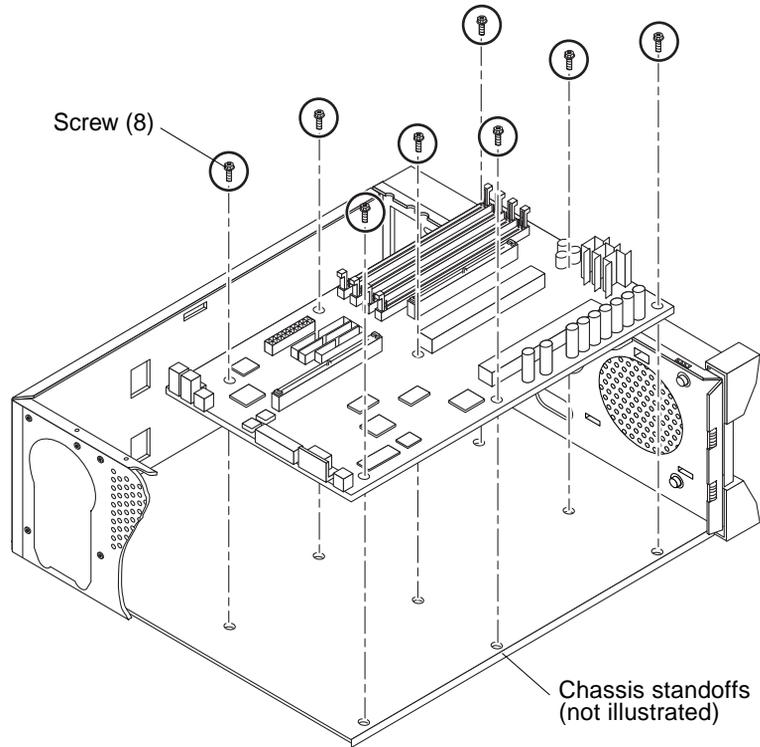

FIGURE 10-15 Removing and Replacing the Motherboard (Ultra 10)
6. Remove the motherboard from the Ultra 10 as follows (FIGURE 10-15):
4. Replace the motherboard into the Ultra 10 as follows (FIGURE 10-15):